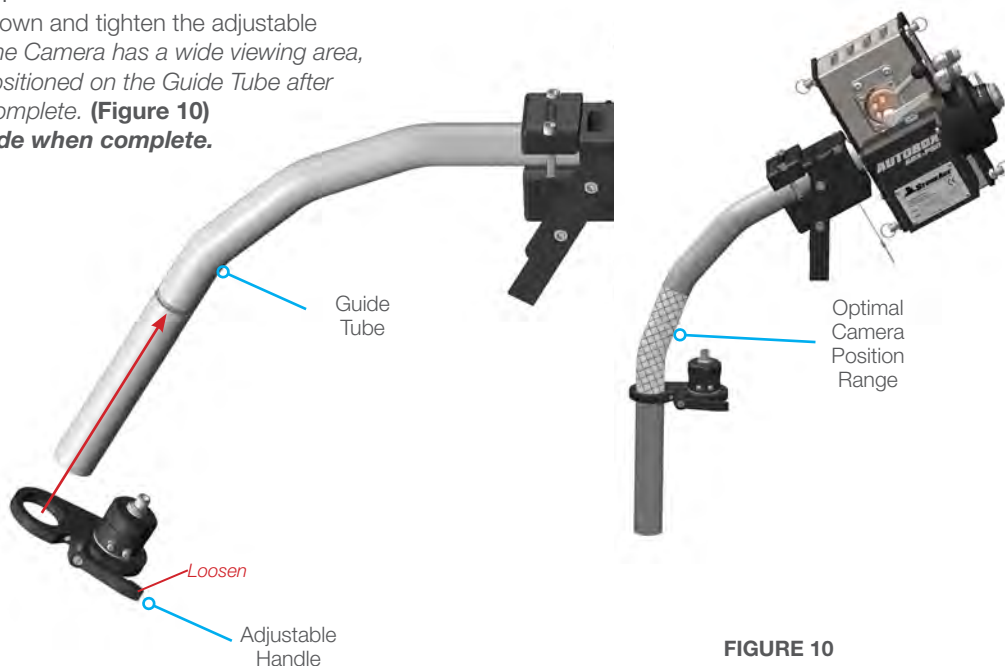

FIGURE 10
- Orient the Camera as shown and tighten the adjustable handle when in place. *The Camera has a wide viewing area, but may need to be repositioned on the Guide Tube after the whole assembly is complete. (Figure 10)*